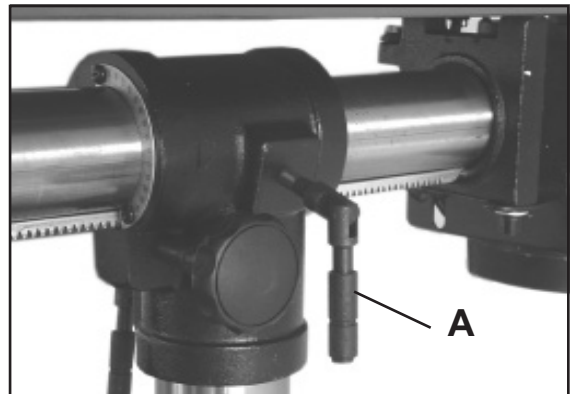

Figure 17
1. Loosen the lock handle (A-Fig.17) on the right side of the drill press head.